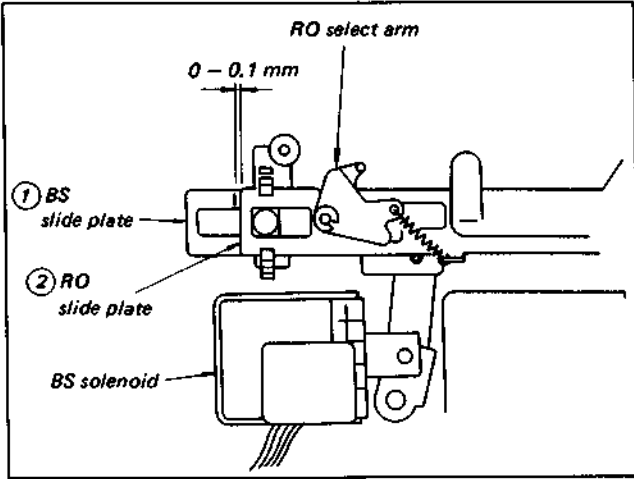

Fig. 3-14a. BS solenoid adjustment
- As shown in Fig. 3-14a, adjust the solenoid so that there is 0 – 0.1 mm clearance between the BS slide plate ① and the end of the RO slide plate ②.